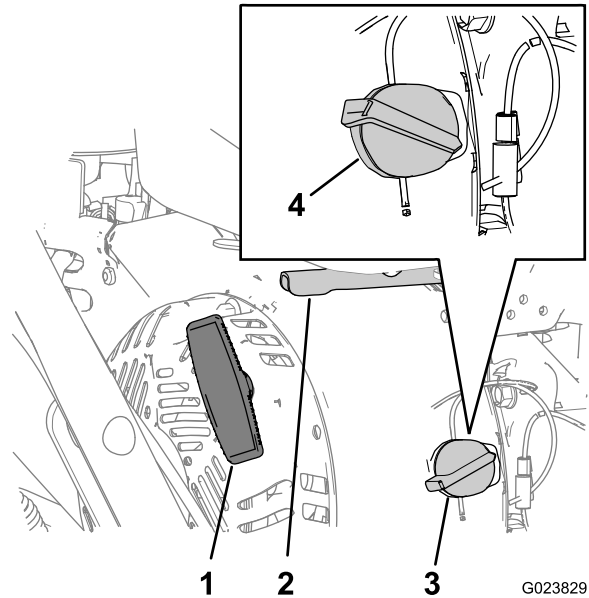

Figure 10
1. On the right side of the engine, rotate the engine On/Off switch clockwise to the ON position (Figure 10).
3. Place the throttle midway between the SLOW and FAST positions located on rear, right side of the engine (Figure 10).
4. Slowly pull the engine-recoil handle until you feel resistance and then stop (Figure 10).
2. Place the throttle midway between the SLOW and FAST positions (Figure 10).
3. Allow the engine to run for a minimum of 15 seconds, then turn the engine On/Off switch to the OFF position to shut off the engine (Figure 10).